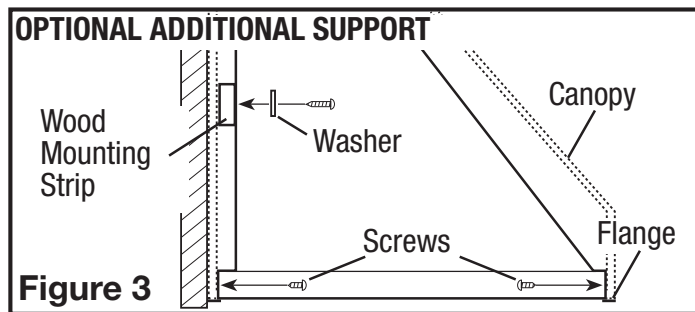

Figure 3
**NOTE:** If additional support is required, install a 2" x .75" strip of wood between the back of the canopy (rear wall) and the hood. When installing the wood strip to the back of the canopy, locate studs in the wall to support the weight of the canopy. Center the wood strip 11.5" from the bottom of the canopy and attach the strip to at least two studs in the rear wall (do not fasten the strip to drywall only). Lift unit up into position so that the bottom flanges are in solid contact with the bottom of the canopy or cabinet. Using wood screws and washers (not included) secure the hood to the wood strip through the two keyholes in the back of the hood. Using the included wood mounting screws, secure the unit to the canopy or cabinet by driving the screws through the holes (Figure 3).